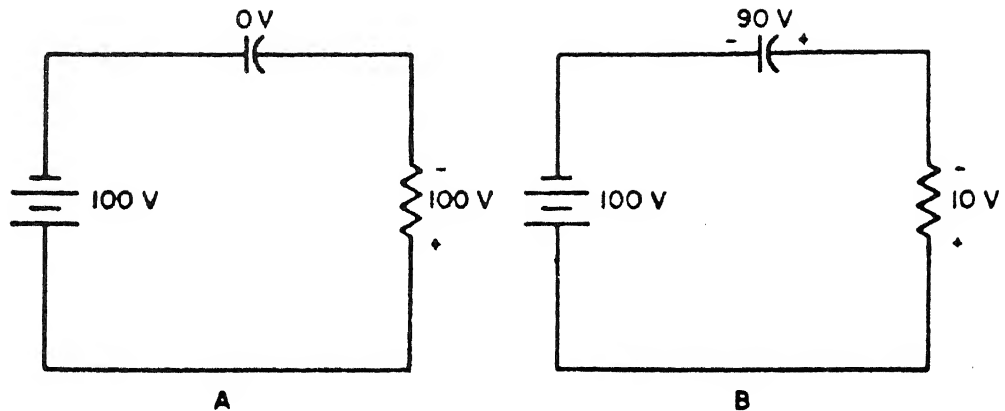

Figure 11
3. The problem is worked for position 1 by the four steps as used in the previous problem. Refer to figure 11.